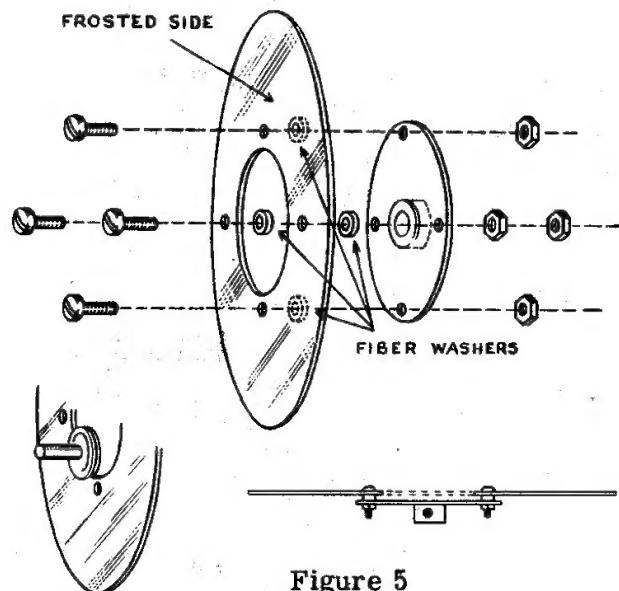

Figure 5
! (✓) Assemble the tuning dial as shown in Figure 5, using the four semi-flathead 3-48 screws.
- ✓ By tilting panel slightly forward after it is slid over the two switch shafts, and at the same time holding the friction drive shaft toward the rear, it will be possible to make the split washers of the friction drive wheels engage the plastic dial disk. See Figure 5. If the dial was placed too far from the chassis originally, it may be necessary to move it back slightly.